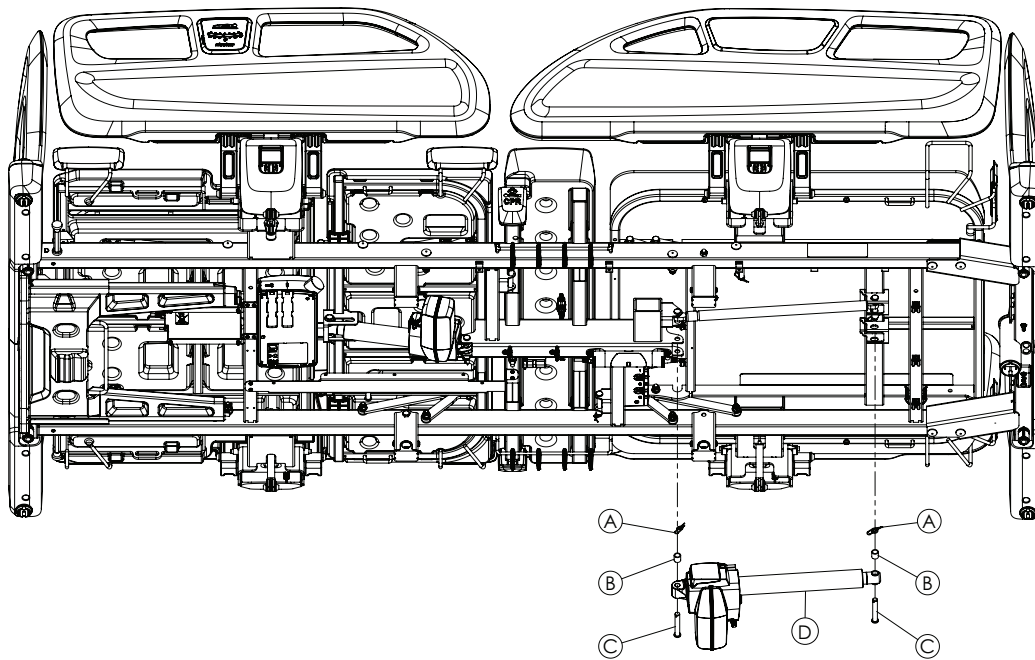

Figure 10 – Fowler backrest actuator
7. Using one hand to support the Fowler backrest actuator (D) and a small slotted screwdriver, open the CPR cable cover on the Fowler backrest actuator (Figure 10).
9. Using needle nose pliers, remove the rue ring cotter pins (A) from each clevis pin. Discard the rue ring cotter pins.